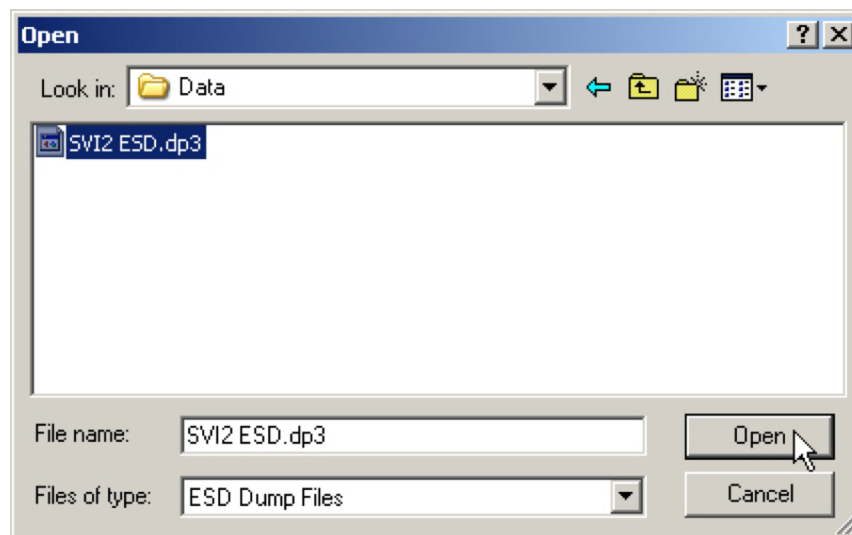

Figure 56 - Offline dp3 Data File Default Location
4. Locate the *.dp3* in the *Data* folder (*Figure 56*) and click **Open**.